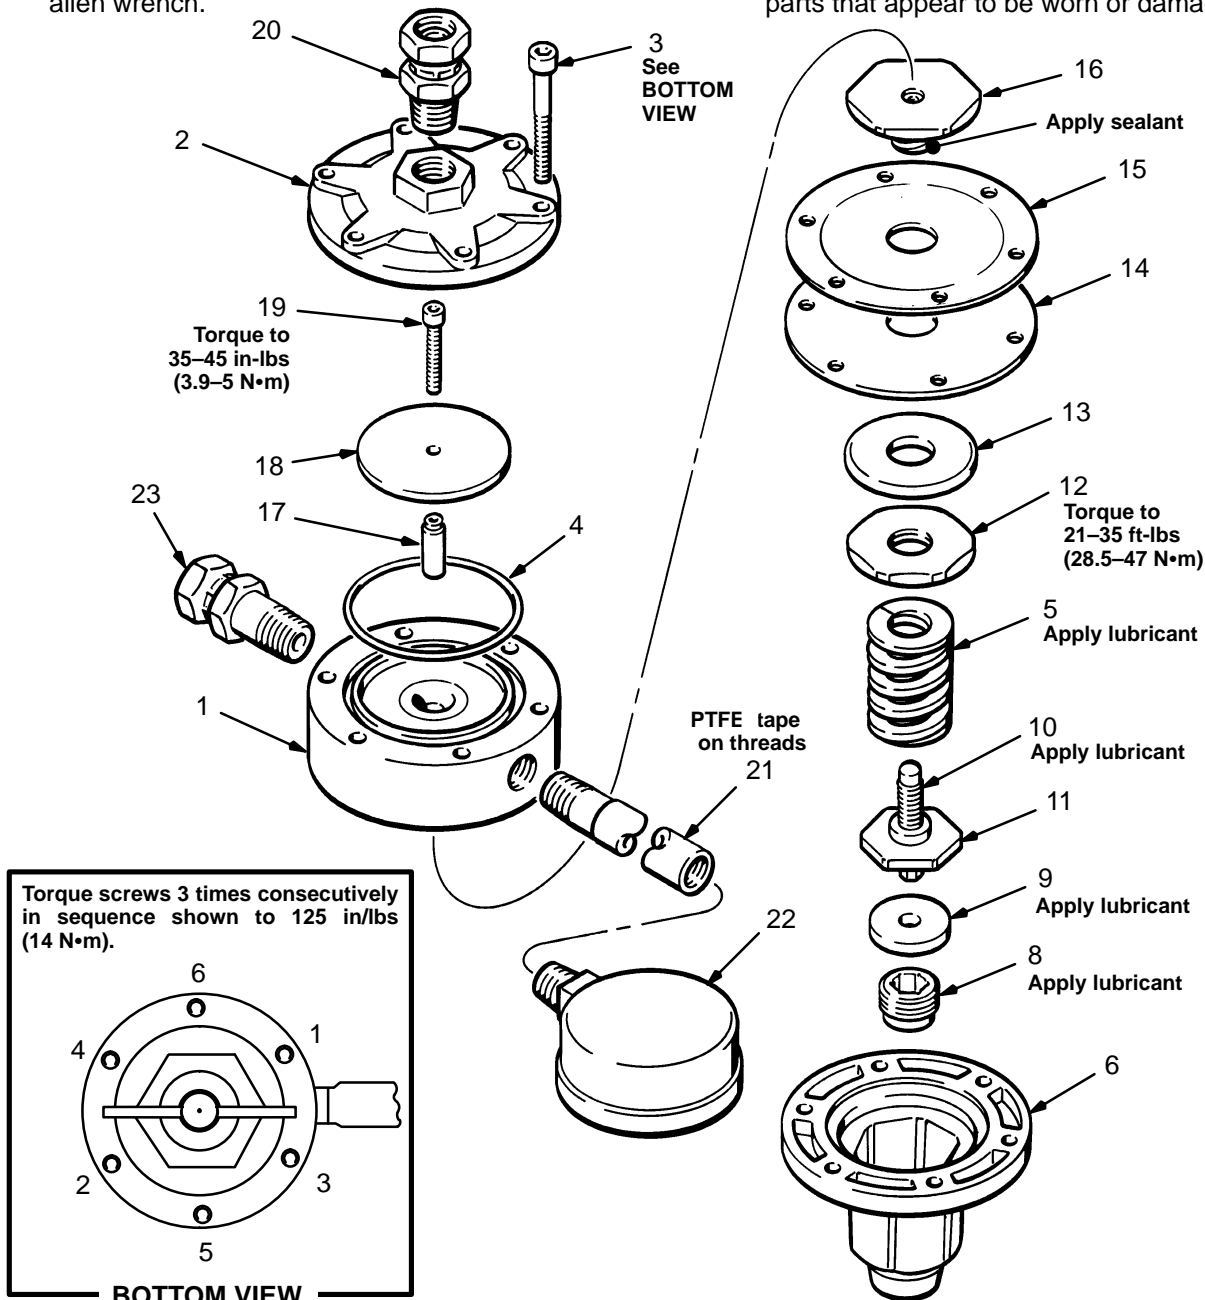

Fig 3
4. Insert a 5/32 allen wrench through the union (20) and loosen the cap screw (19). See Fig 3 or 4.
5. While holding the cap (6) to the housing (1), remove the six cap screws (3), using the key (7) or a 3/16 allen wrench.
6. Remove the cover (2) and cap screw (19), with the disk (18) and valve stem (17), from the housing (1). Check the PTFE o-ring (4) in the housing for damage and replace if necessary.
7. Remove the cap (6), adjustment screw (10) with the nut (11), and the spring (5).
8. Unscrew the jam nut (12) from the diaphragm base (16).
9. Remove washer (13) and diaphragms (14 & 15).
10. Remove the gage (22) from the tube (21).
1. Apply high strength thread adhesive to the diaphragm base (16) threads.
2. One at a time, place the diaphragm (15), diaphragm (14), and washer (13) on the diaphragm base (16). Align the holes of the two diaphragms.
3. Secure them with the jam nut (12). Torque the jam nut to 21–35 ft-lb (28–47 N•m). See Fig 3 or 4.
4. Coat the outer surfaces of the spring (5), adjustment screw (10), both sides of the washer (9), and adjustment screw (8) with no. 2 lithium base grease.
5. Install the spring onto the adjustment screw (10), and against the nut (11).
7. Place the washer (9) into the recess in the housing (6), making sure it lays flat.
8. Place the adjustment screw (10), nut (11), spring (5), and diaphragm assembly (13,14, 15, 16) into the cap (6) in the order shown in Fig 3. Carefully align the diaphragm holes with the screw holes in the cap.
9. Place the stem (17) into the base (16), making sure it sits squarely in the recess.
10. Place the housing (1) on the cap (6), aligning the screw holes and being careful not to disturb the stem (17).
11. Apply high strength thread adhesive to the cap screw (19), and place it [with the disk (18)] through the stem (17). Thread the cap screw loosely into the diaphragm base (16). MAKE SURE the stem fits squarely into the disk recess.
12. Place the cover (2) onto the housing (1), aligning the screw holes.
13. Place the screws in the screw holes. Tighten them in the order and to the torque shown in Fig 3, Bottom View.
14. Tighten the cap screw (19) to 40–50 in-lbs (4.5–5.6).